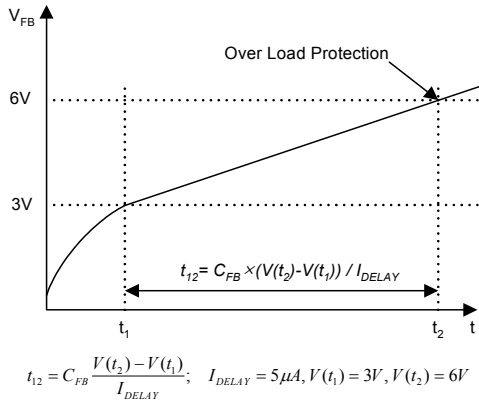

Figure 6. Over Load Protection (OLP)
4.1 Over Load Protection (OLP) : Overload is defined as the load current exceeding a pre-set level due to an unexpected event. In this situation, the protection circuit should be activated in order to protect the SMPS. However, even when the SMPS is operating normally, the over load protection (OLP) circuit can be activated during the load transition. In order to avoid this undesired operation, the OLP circuit is designed to be activated after a specified time to determine whether it is a transient situation or an overload situation. In conjunction with the Ipk current limit pin (if used) the current mode feedback path would limit the current in the Sense FET when the maximum PWM duty cycle is attained. If the output consumes more than this maximum power, the output voltage (V_o) decreases below its rating voltage. This reduces the current through the opto-coupler LED, which also reduces the opto-coupler transistor current, thus increasing the feedback voltage (VFB). If VFB exceeds 3V, the feedback input diode is blocked and the 5uA current source (IDELAY) starts to charge Cfb slowly up to Vcc. In this condition, VFB increases until it reaches 6V, when the switching operation is terminated as shown in Figure 6. The shutdown delay time is the time required to charge Cfb from 3V to 6V with 5uA current source.